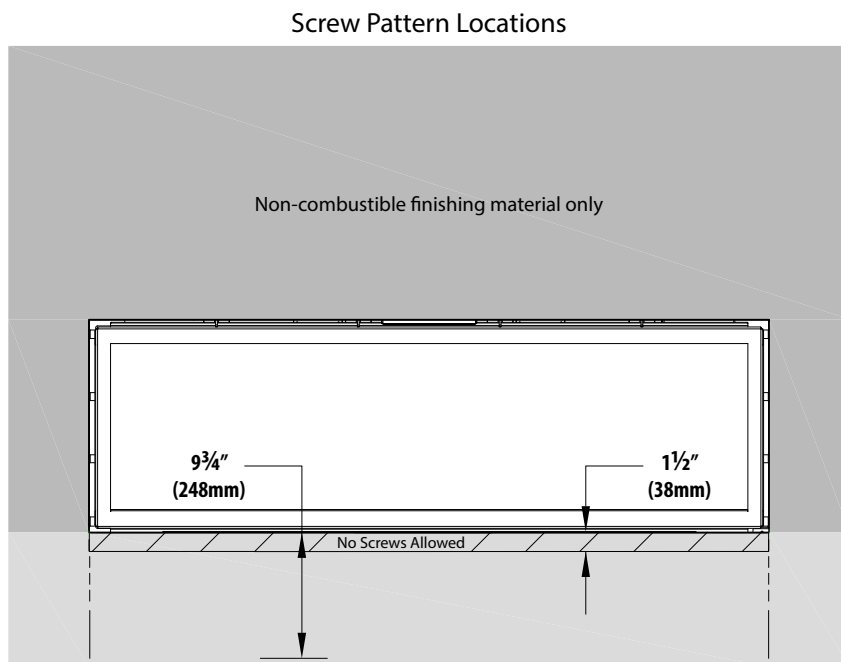

FIGURE 4.6 Minimum Non-Combustible Finishing Dimensions Screw Locations
- It is acceptable to pre-drill holes and to use self-tapping screws prior to attaching the non-combustible material to the top and sides of the fireplace face. Refer to FIGURE 4.6 on page 39. Screws can only penetrate the fireplace outer shell up to 1/2" (13mm) in the allowed areas.
- It is acceptable to pre-drill holes and to use self-tapping screws prior to attach the non-combustible material to the top and sides of the fireplace face, screws can only penetrate the fireplace outer shell up to 1/2" (13mm) in the allowed areas. See FIGURE 4.6 on page 39.
- This combustible material goes over any required non-combustible materials as shown in FIGURE 4.6 on page 39.